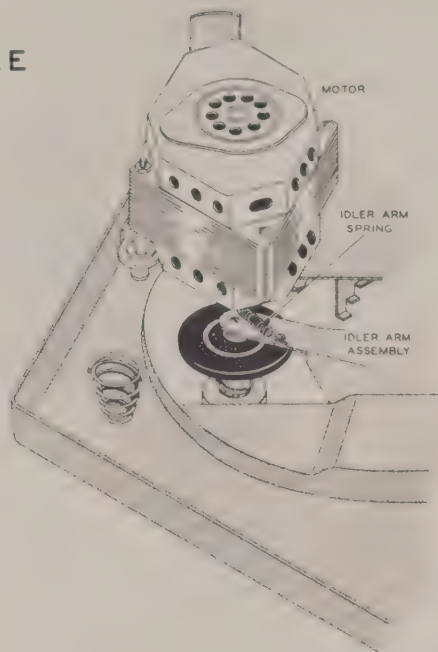

Figure 5
- () Turn the assembly over and connect the spring on the motor bracket to the hook provided on the lower side of the idler arm. See Figure 5.